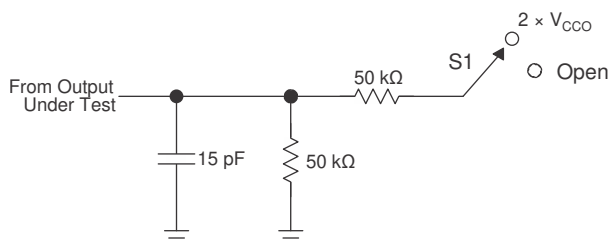

Figure 6-3. Load Circuit for Enable-Time and Disable-Time Measurement
- Waveform 1 in Figure 6-6 is for an output with internal such that the output is high, except when OE is high (see Figure 6-3). Waveform 2 in Figure 6-6 is for an output with conditions such that the output is low, except when OE is high.